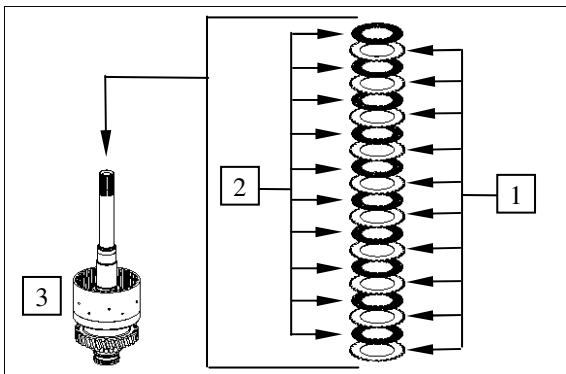

Figure 11
Install outer and inner disks alternately into the disk carrier (3) as shown in Figure 11,